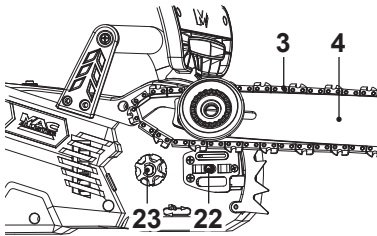

Fig. 5
6. Align the guide bar (4) and saw chain (3) assembly with the drive sprocket (23) and support pin (22). Lay the saw chain around the drive sprocket and then lower the guide bar to install it to the support pin (Figs. 5, 6).
7. Make sure the saw chain (3) is properly placed into the groove around the guide bar (4) before replacing the cover.